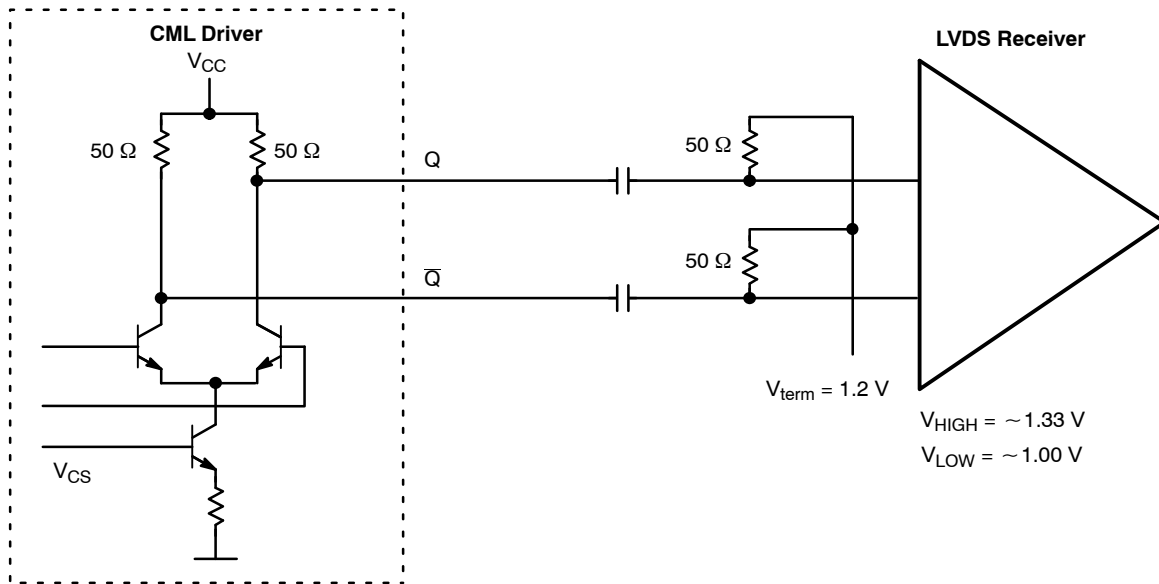

Figure 14. CML to LVDS ($V_{term} = 1.2\text{ V}$)
A CML Driver interconnect to an LVDS (LVDS, BLVDS, M-LVDS, GLVDS, or LVDM) compliant receiver requires a cap coupled (AC) interface. Typically, a $50\ \Omega$ (R_T) per line impedance matching termination to V_{term} is used as shown in Figure 14, and will produce a V_{HIGH} of about 1.33 V, a V_{LOW} of 1.0 V, with an amplitude of 330 mVpp (each line measured single-ended). The V_{CM} is set to 1.2 V by the V_{term} reference.